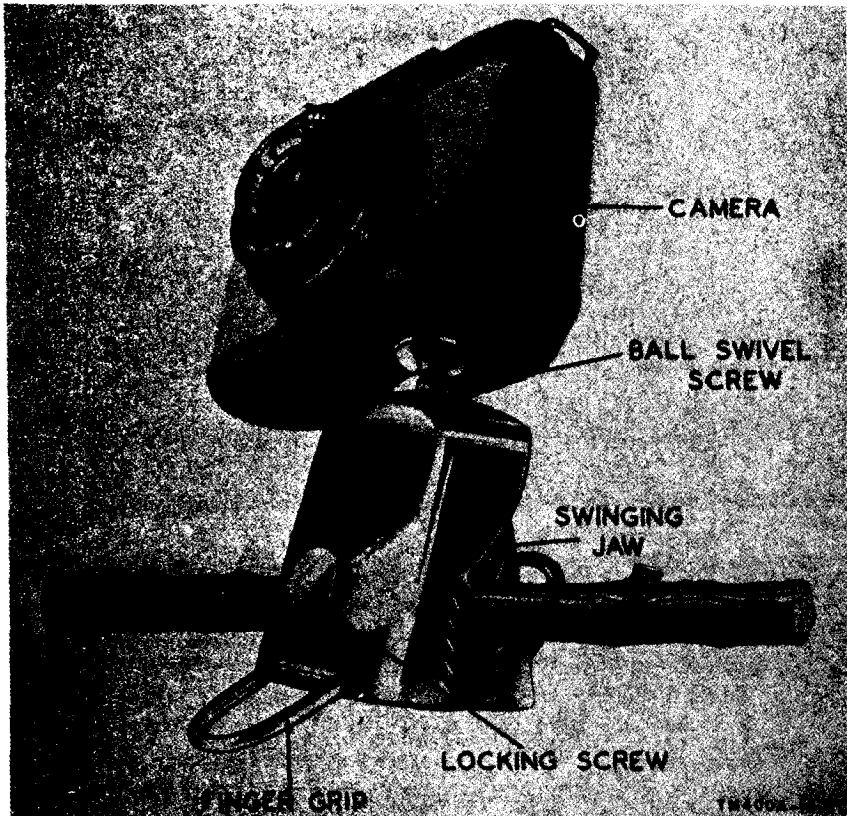

Figure 14. *Camera mounting clamp, with Camera PH-324-A attached.*
e. *Camera Mounting Clamp* (fig. 14).
- (1) Camera PH-324-A should be placed on a stationary support when time and bulb exposures are made. The camera may be set on a flat surface or attached to a convenient object by means of the camera mounting clamp furnished with the equipment.
- (2) To attach the clamp to the camera, tighten the locking screw on the clamp so that the ball swivel will not turn. Screw the ball swivel screw into the tripod socket of the camera.
- (3) Pull the jaws of the clamp open, using the finger grips, and place the jaws over a fence rail, tree branch, or other object. Press the points firmly into the surface.
- (4) Loosen the locking screw, position the camera, and tighten the screw again.
- (5) When the clamp is attached in a horizontal position, place the inside or swinging jaw on top.